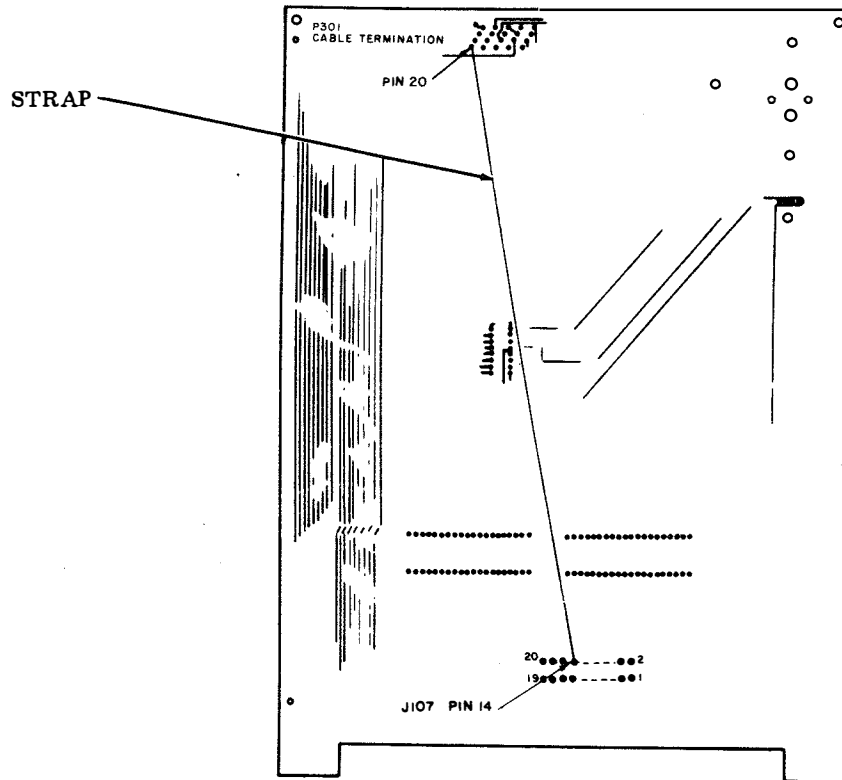

Fig. 5—Logic Card Strap
2.10 The wire strap (cut to 15" length) is soldered between two points as shown on the bottom of the 410740 circuit card (P301-20 and J107-14) and the card is re-installed. (See Fig. 5.)